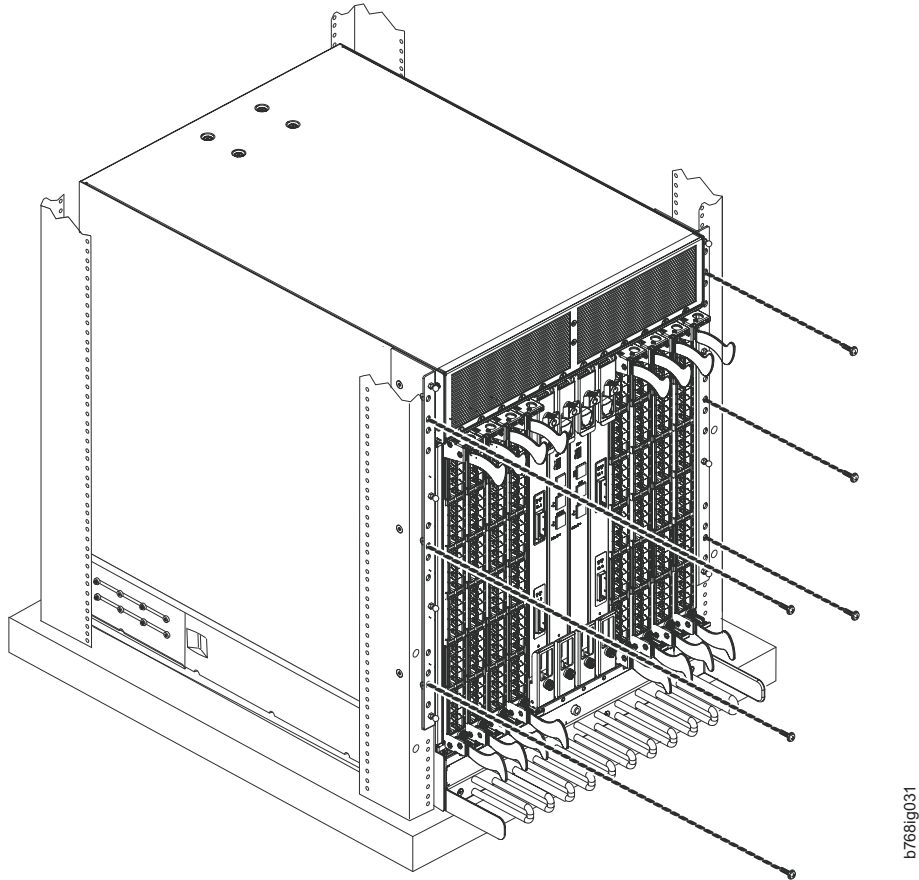

Figure 8. Locking the shelf into position
- e. Lock the shelf into position. See Figure 8 on page 25.